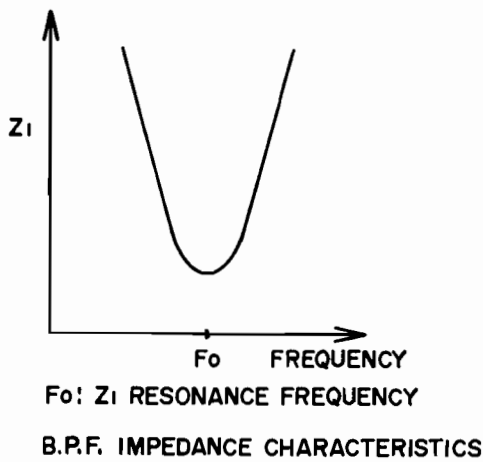

Fig. 42
2. Z_0 impedance is the composite impedance of Z_1 of which the impedance is changed by the frequency and Z_2 which is changed depending upon the signal level. (See Figs. 42, 43)